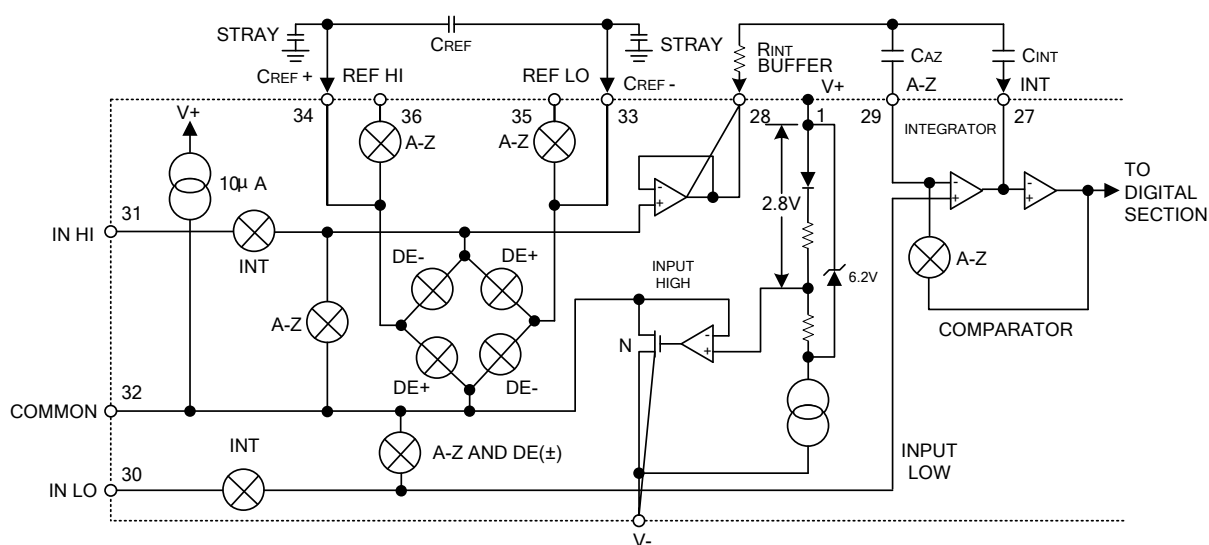

Fig.1 Analog Section
■ ELECTRICAL CHARACTERISTICS ($T_A=25^{\circ}\text{C}$, $f_{\text{CLOCK}}=48\text{kHz}$, measured by the circuit of Fig.1)
Fig.1 shows the Analog Section for the UTC **7106**. Each measurement cycle is divided into three phases. They are (1) auto-zero (A-Z), (2) signal integrate (INT) and (3) de-integrate (DE).